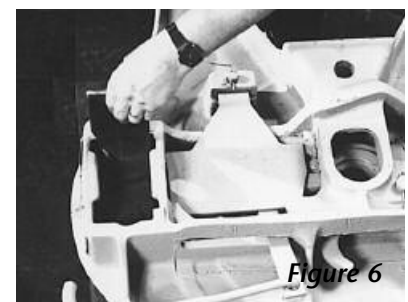

Figure 6
6. After removal of the bracket shoes, use a screwdriver or similar tool to pop one end of the bracket pad out of the place casting pocket and remove at both sides (Figure 6).